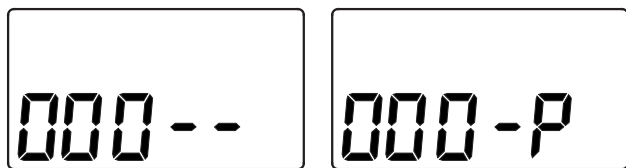
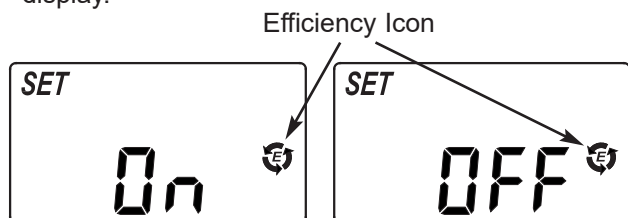

FIG. 22
FIG. 23
1. Press and hold the SELECT button until one of the screens in Figure 22 is displayed. Once in this display, press the SELECT button once and one of the two displays in Figure 23 is shown.